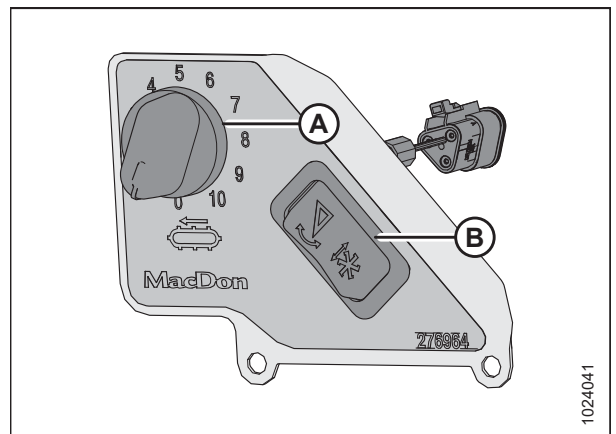

Figure 3.200: In-Cab Side Draper Speed Control
Switch (B) in Figure 3.200, page 165 allows the operator to switch between the header tilt and reel fore-aft controls. For instructions on the controls, refer to Adjusting Header Angle from Combine, page 139.